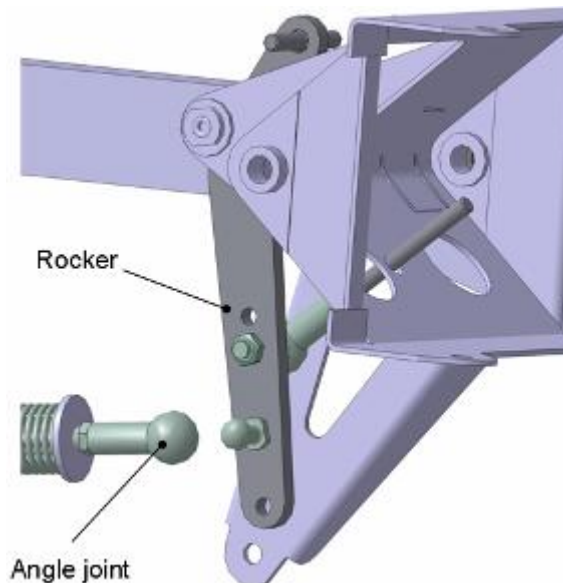

Fig. 4-8
7. Disconnect spring push-rod together with spring and telescopic guide from Trim Tab Rocker by removing wire clip from angle joint, Fig. 4-8.